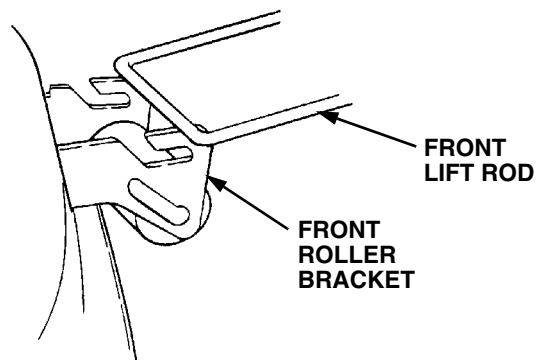

Figure 40
8. Slide the cutting deck forward and lift the front lift rod from the roller bracket slots at the front of the deck. Slide the deck rearward and lower the front lift rod so it rests on the front roller bracket of the deck, forward of the slots. (See Figure 40).